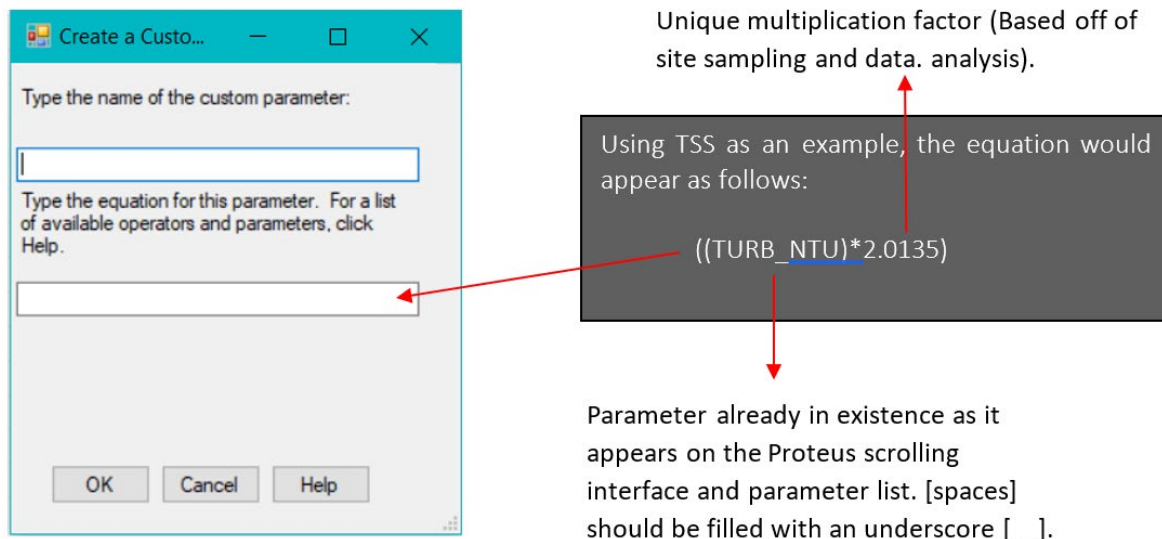

Figure 14: Custom parameter creation dialogue box.
1. Following option selection, a dialogue box (Fig 14) will open which needs to be filled.